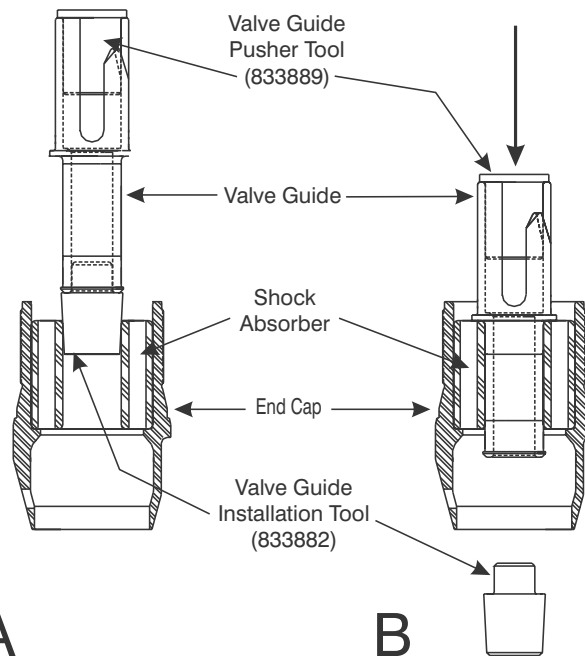

Figure 9-4. Press the Valve Guide into the Shock Absorber.
8. Center the assembled Valve Guide (12) and Tools 833882 and 833889 over the bore of the shock absorber as shown in Figure 9-4-A.
9. Press the Valve Guide (12) into the Shock Absorber (13) until the center shoulder of the Valve Guide seats against the Shock Absorber, as shown in Figure 9-4-B.
10. Valve Guide Installation Tool 833882 will fall free of the Valve Guide as the guide protrudes from the Shock Absorber, as shown in Figure 9-4-B.